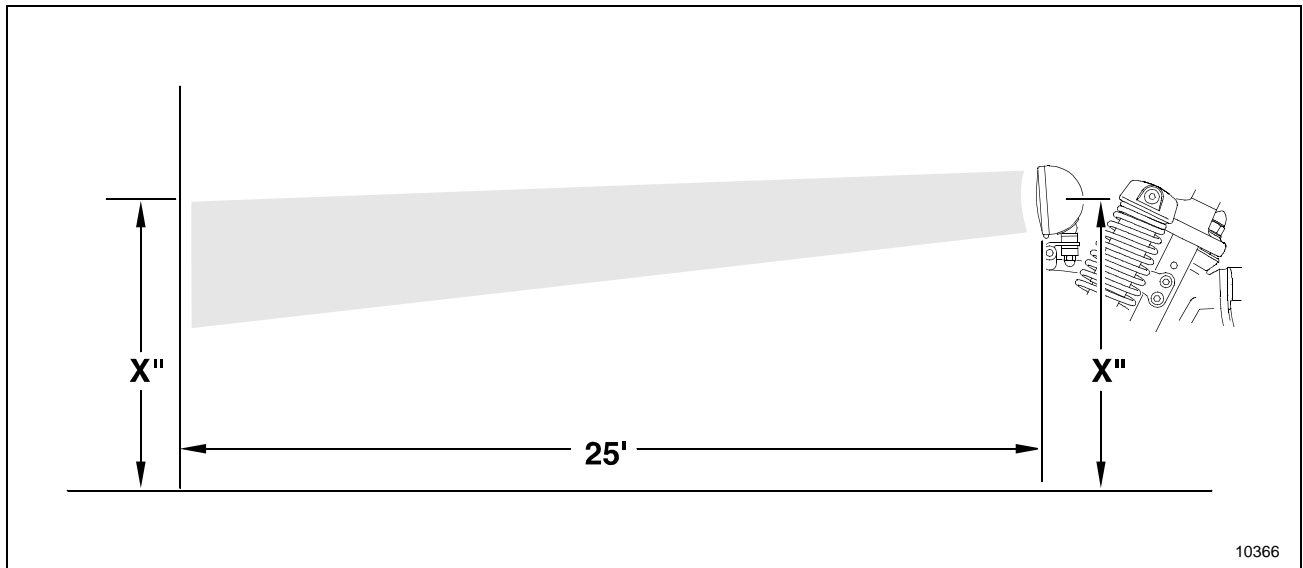

Figure 5
9. Aim the driving lamps. Each lamp should shine straight ahead or slightly to the right of the motorcycle. The top of the lamp beam should be just below the center of the lamp at a distance of 25' (see Figure 5).